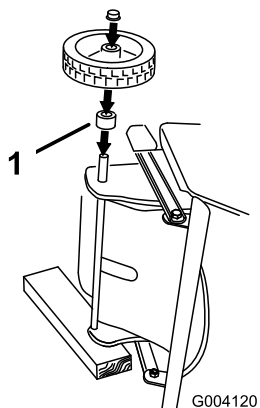

Figure 3
1. Turn the snowthrower onto its left side and place a block under the left axle end (Figure 3).
2. Slide the **short** spacer and a wheel onto the **right** axle end (Figure 3).